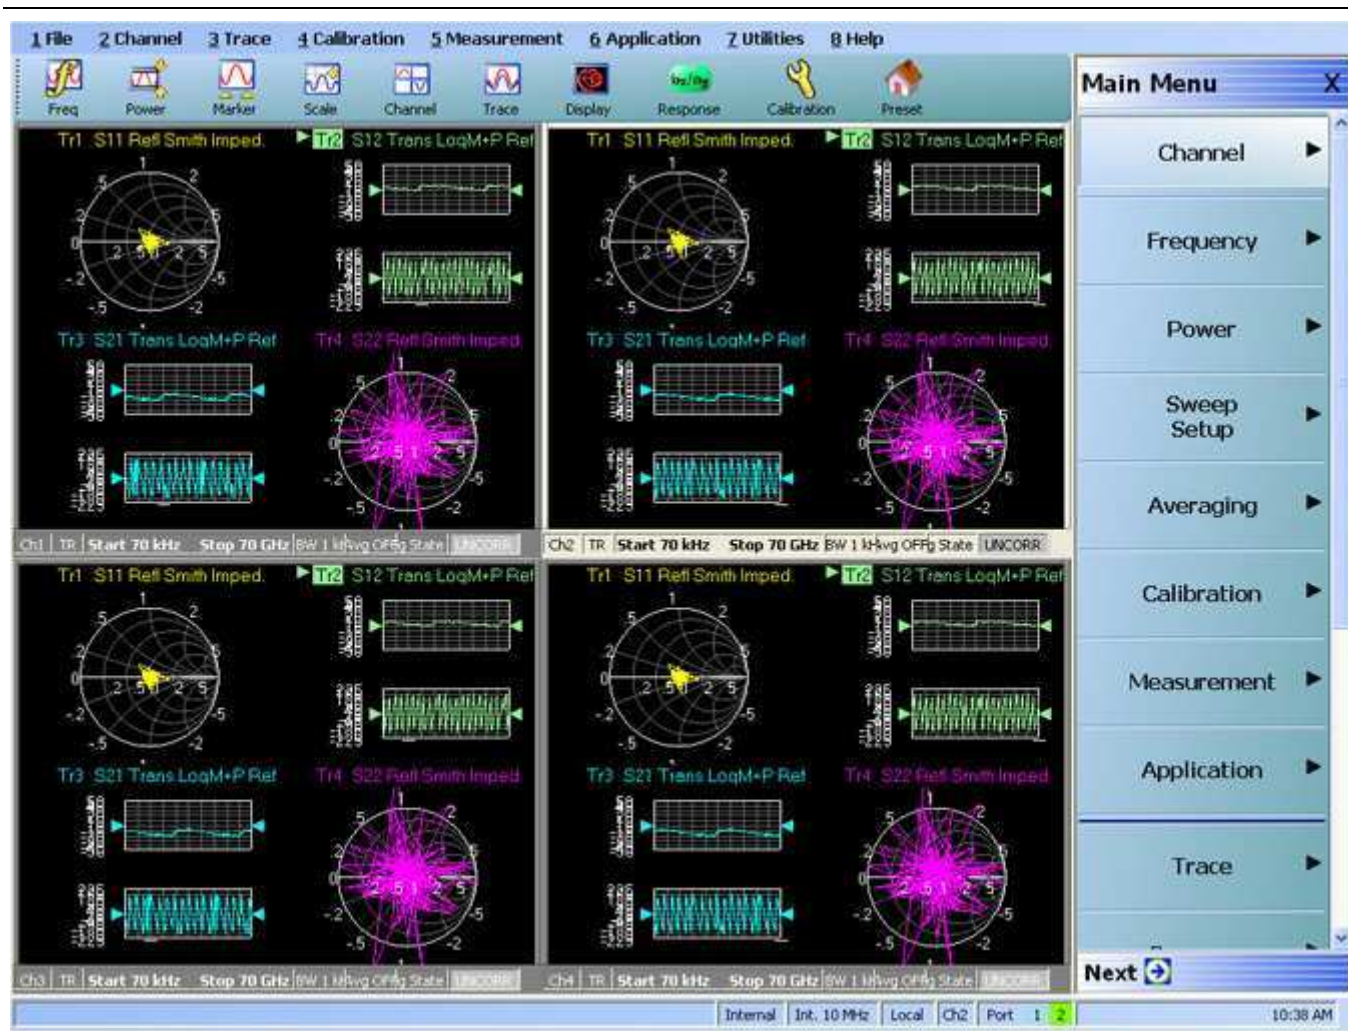

Figure 4-3. Four Channels – Each channel with Four Traces –16 Total Traces
2. The selected channel border changes from gray to white. Figure 4-3 on page 4-4 shows Channel 2 (Ch2) selected.